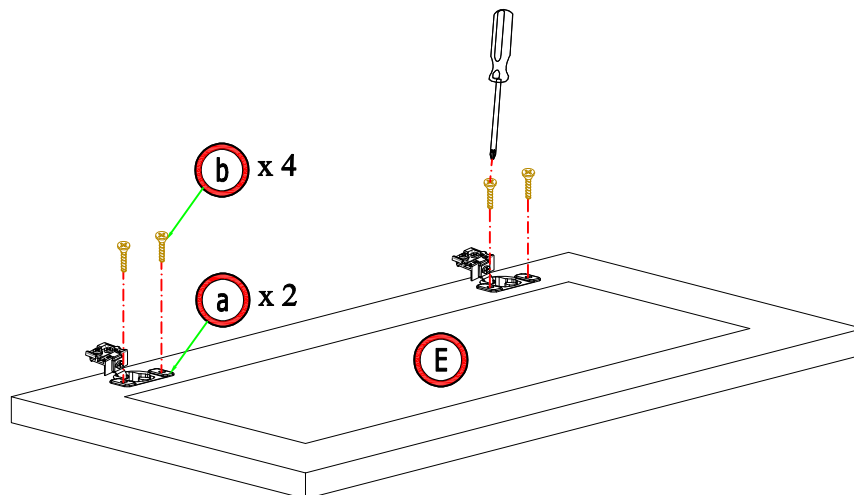

Figure 6
6. Assemble 4 hinges into two doors by screw driver and 8 screw 7/15" (Figure 6)